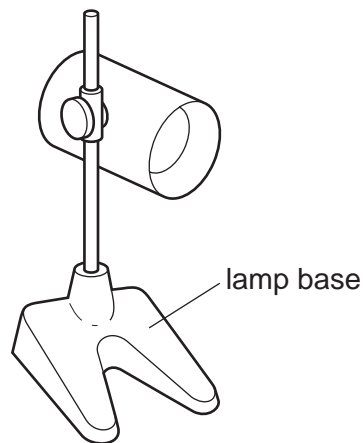

Fig. 6
- 7 Fig. 6 shows a table lamp made from metal.